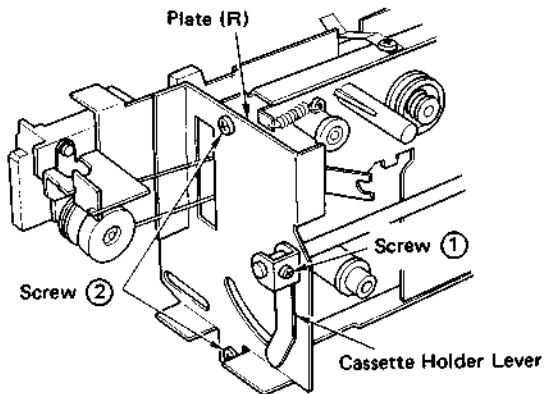

Fig. 8
- 2) To remove the cassette holder lever, undo screw ① shown in Fig. 8.
- 3) To remove the plate (R) for the maintenance of the mechanism base, undo 2 screws ② shown in Fig. 8.